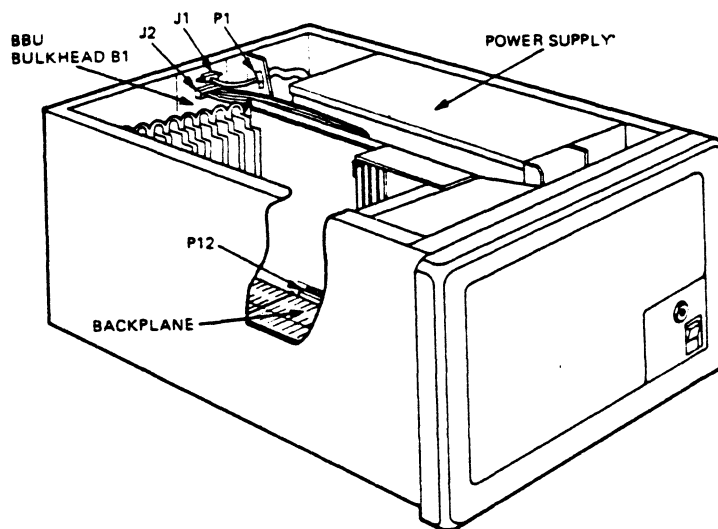

FIGURE 2-36 BBU CABLES AND LOCATIONS
16. Plug the signal cable connector (10 position) into the backplane PC board mating connector (J12). See Figure 2-36.